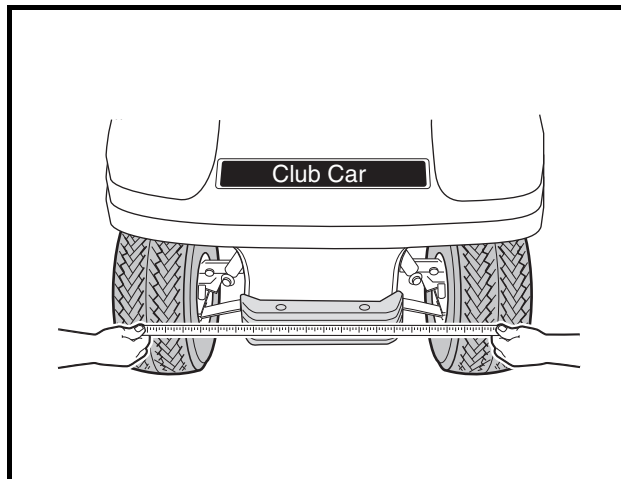

Figure 7-17 Check Toe-In
- Measure the distance between the marks on the rear-facing surfaces of the tires, and then roll the vehicle **forward** one and one-half wheel revolutions until the marks appear on the forward facing surfaces of the tires at about the same height from the floor (**Figure 7-17, Page 7-16**).